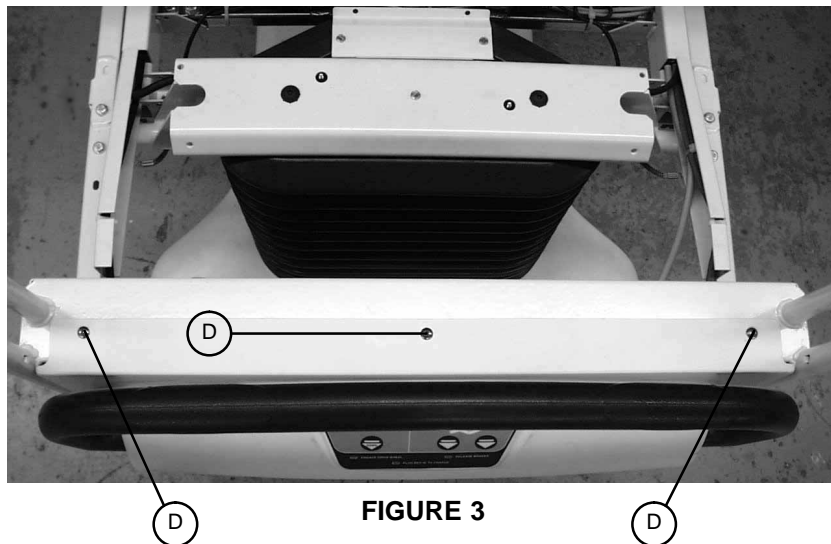

FIGURE 3
8. Using a #2 Phillips screwdriver, remove the three screws (D) holding the control bar cover to the head end of the bed (see Figure 3).